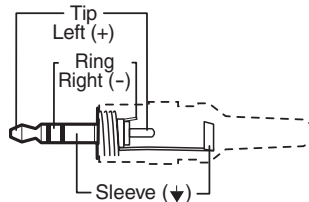

Figure 6. Audio Input Connector Wiring
- B Audio input** — Connect an unbalanced stereo audio source to this 3.5 mm mini stereo jack. Figure 6 shows how to wire the audio plug.